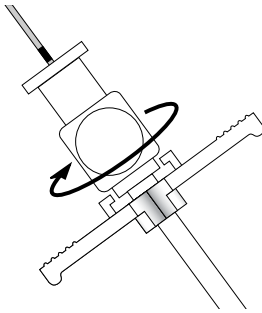
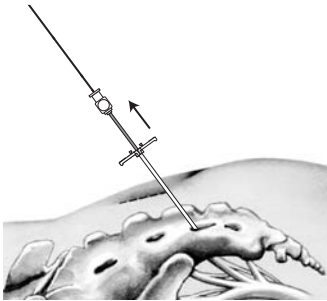

Figure 6. Unlock dilator from introducer sheath.
Figure 7. Remove directional guide and dilator.
5. Unlock the dilator from the introducer sheath (Figure 6). Remove the directional guide and dilator, leaving the introducer sheath in place (Figure 7).